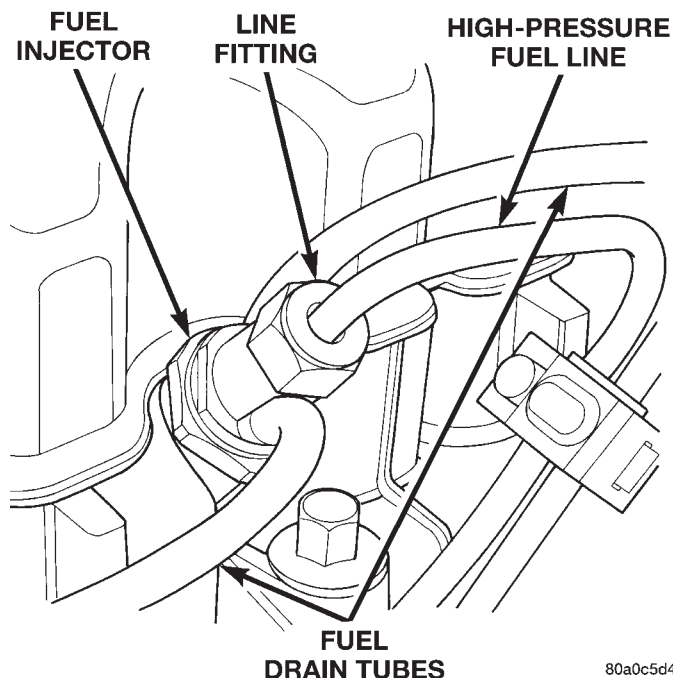

Fig. 51 Fuel Lines at Fuel Injectors
(3) Clean the area around each fuel line connection. Disconnect each line at the top of each fuel injector (Fig. 51).
(4) Disconnect each high-pressure line fitting at each fuel injection pump delivery valve.
(5) Very carefully remove each line from the engine. Note the position (firing order) of each line while removing. **Do not bend the line while removing.**